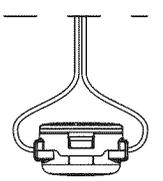

Fig. 17
2. Using 10.5 ft. (3.2 m) of 0.095 in. (2.41 mm) replacement line push an end of the line through one of the eyelets until it protrudes through the opposite side. Continue pushing or pulling the line until the line is evenly distributed, so approximately 5 ft. (1.5 m) is visible from both sides of the cutting head (Fig. 17)